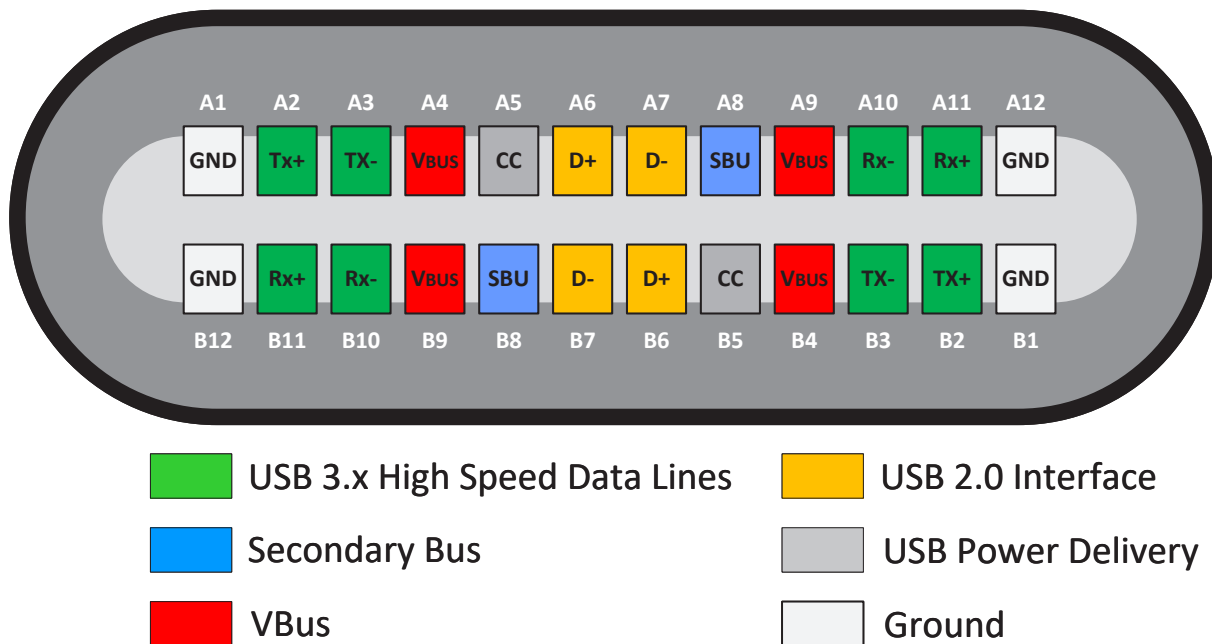

Figure 1. USB Type C pin configurations
Figure 1 shows the pin configurations of USB Type-C. There are two differential pairs (D+ and D-), four pairs of SuperSpeed+ transmitter and receiver data buses (Tx+/Tx- and Rx+/Rx-), two Configuration Channel (CC) pins, two Side Band Use (SBU) pins, four VBus pins and four Ground pins (refer to Table 1 below).
SBU and CC pins protection: Considering the tiny size of the USB Type-C plug and close positioning of its pins, discrete single-line TVS diodes are well suited to protect the port from ESD event. Moreover, discrete TVS diodes are also easier for the designer to layout and trace route. Referring to the pin configurations in Figure 1, note that the CC pin and SBU pin are next to the VBus pin. The VBus pin voltage can reach up to 20V. Therefore, if a short circuit condition occurs, the CC pin and SBU pin will be exposed to 20V. TVS diodes are not designed to protect against the short condition so in this case, a TVS diode with a minimum working voltage of 20V is required to protect the CC and SBU pins. Semtech’s μ Clamp2411ZA is capable of withstanding high ESD with voltages ranging from ± 20 kV (Air), and ± 17 kV (Contact) as per IEC 61000-4-2. It maintains an operating voltage of 24V. μ Clamp2411ZA is a bi-directional TVS diode with a low dynamic resistance of 1Ω and comes in an ultrasmall 0201 package.